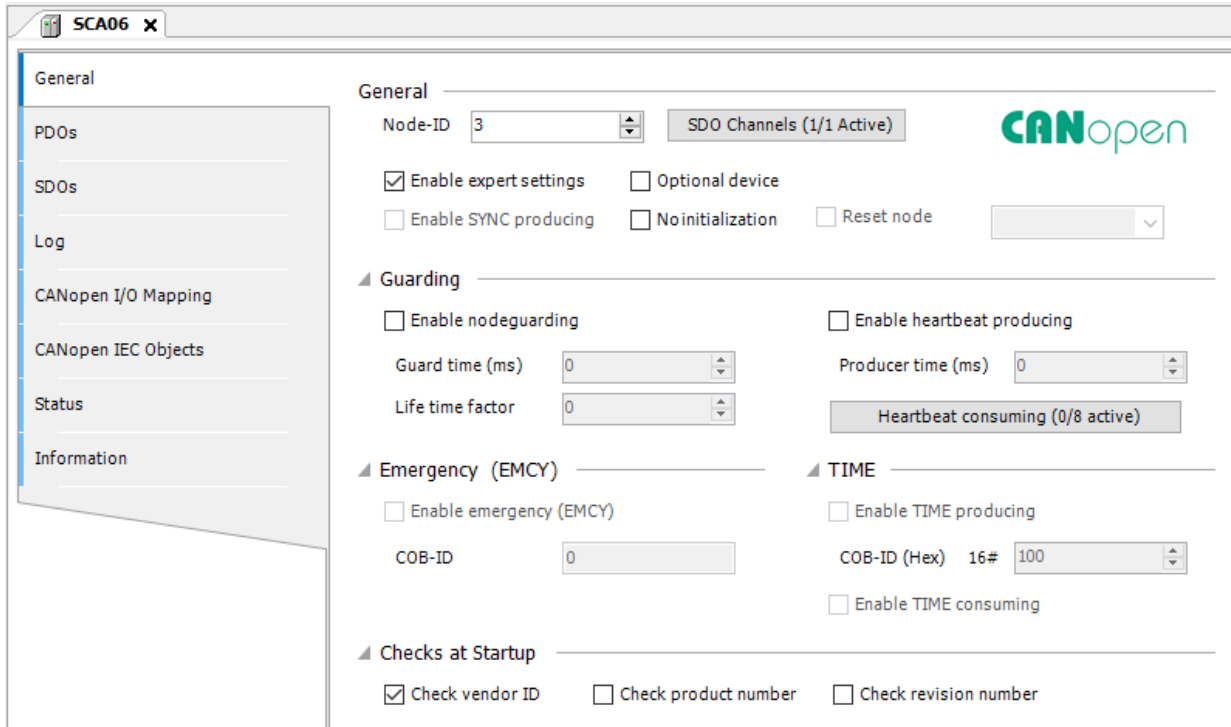

Figure 6.10: Default SCA06 settings on the CANopen SoftMotion network.
- Open the **SCA06** object settings, and on the **General** tab, set the page options as shown in Figure 6.10.